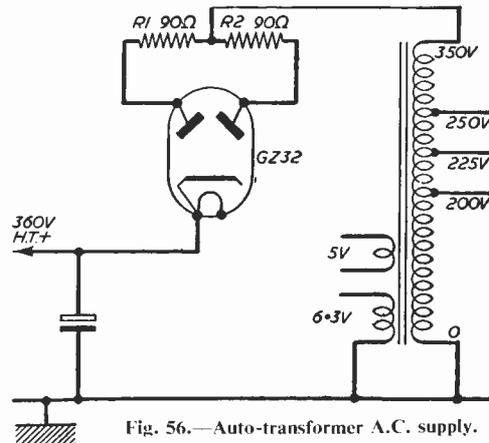
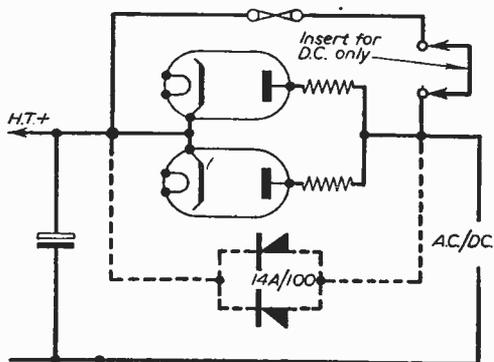
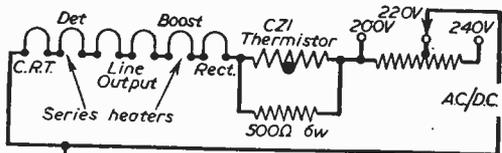

Fig. 56.—Auto-transformer A.C. supply.
Fig. 57.—Using two rectifiers, which can be metal or valve types, in parallel.
Fig. 58.—Series heater wiring including a thermistor.
In Fig. 56 is the circuit of another type of A.C. supply; the transformer is auto-wound. The extension of the primary winding steps up the voltage to 350V and no H.T. secondary winding is therefore required, but the natural impedance provided by the secondary winding of Fig. 54 is missing. Therefore, to limit the peak cathode current to a safe value, surge limiting resistors must be fitted to the rectifier anodes, these are shown as R1 and R2. It will be noticed that the chassis is no longer isolated from the mains, a procedure which is now common practice. Figs. 57 and 58 show the present-day trend in H.T. and
L.T. power supplies. In Fig. 57, two rectifiers are used in parallel to give the required current output without being overloaded, although a metal rectifier can be used in this position if required (as shown dotted). In Fig. 58, a series heater
56. are ordinary resistors and should not be confused with the surge limiting resistor of Fig. 58.